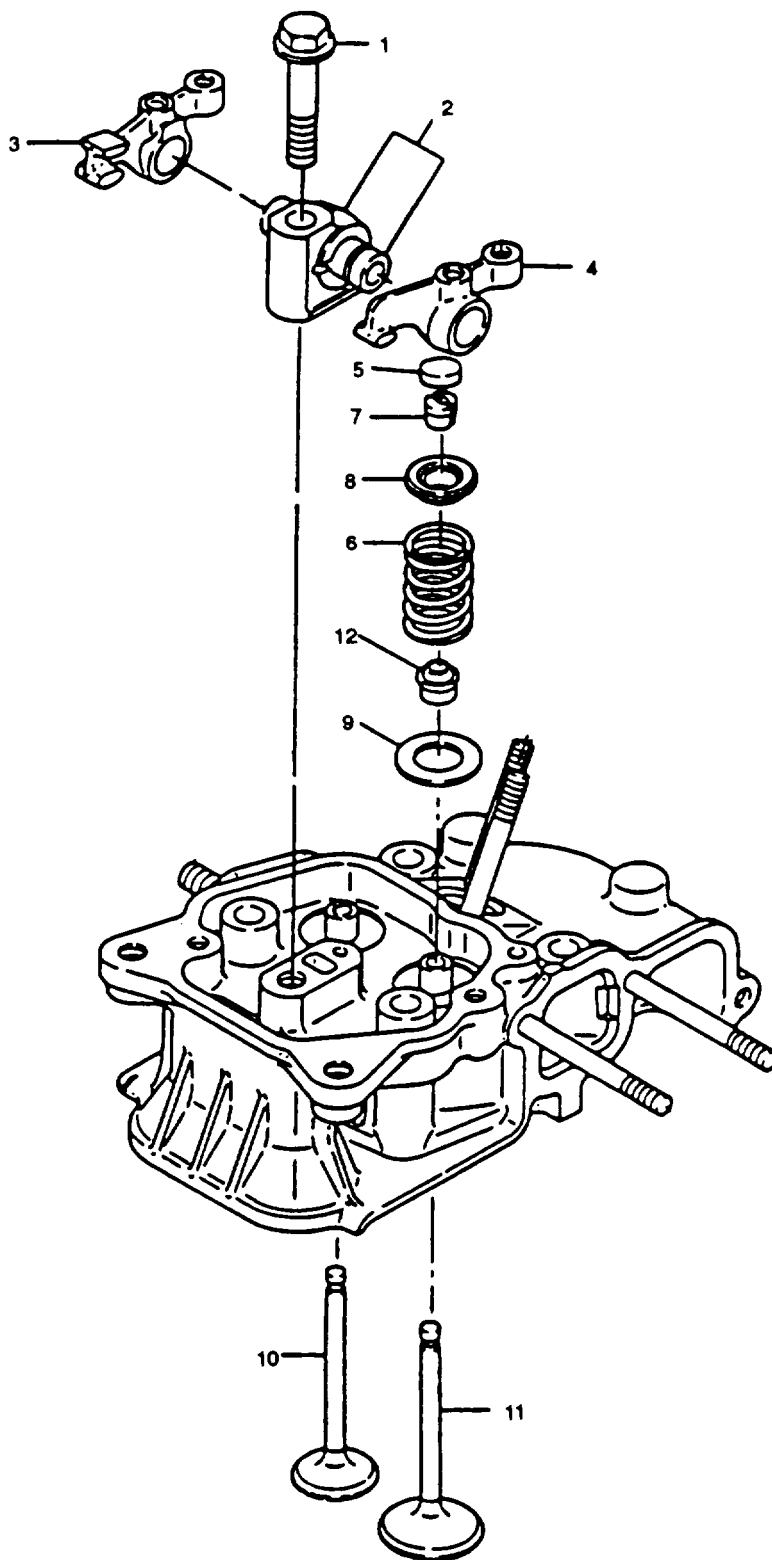

Figure 6-2. Cylinder Head Assembly
(Refer to Figure 6-2)
- (1) Replace any components that do not meet inspection criteria.
- (2) Remove slight scratches or scuff marks with crocus cloth.
d. Installation. (Refer to Figure 6-2)
- (1) Insert new valve stem seals (12) onto valve guide.
- (2) Insert valves (10 and 11) into cylinder head.
- (3) Install valve spring washer (9).
- (4) Compress valve spring (6) and install retainer (8) and retainer keeper (7).
- (5) Install valve springs (6).